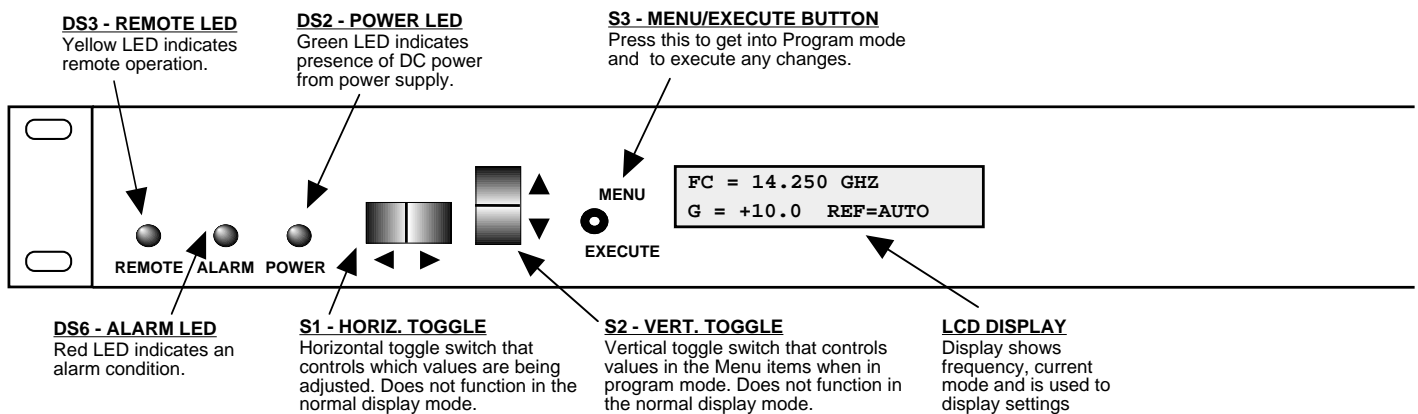

FIGURE 2.2 3116-140-4110 Front Panel Controls and Indicators
Figure 2.2 shows the front panel controls and indicators.
6. Be sure DS2 (green, DC Power) is on and DS6 (red, Alarm) is off (Figure 2.2).
Alarm indications appear on the LEDs (see Figure 2.2).